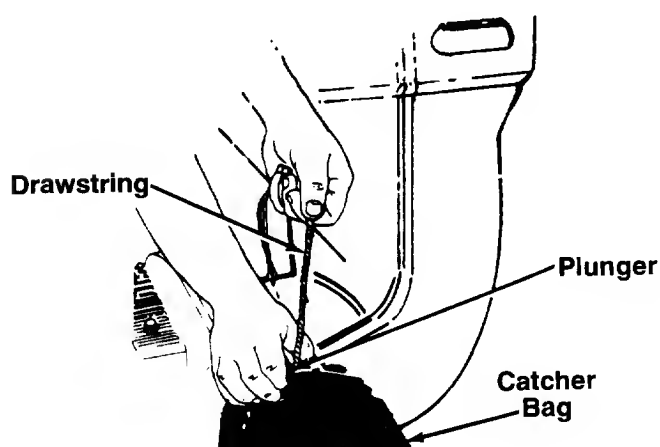

FIGURE 2.
- To attach bag, place bag opening over the chute deflector so it completely covers chute opening. Depress plunger on drawstring, pull on drawstring until bag is tight around chute opening. Release plunger to lock it into position. See figure 2.